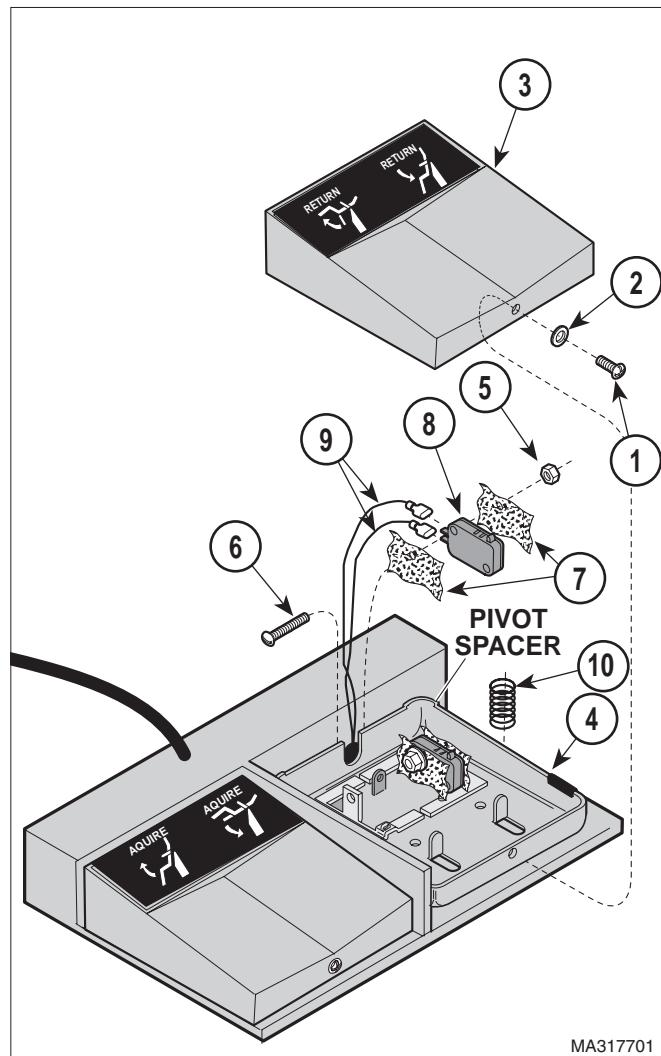

Figure 4-12. Typical Foot Pedal Footswitch Removal / Installation
- (1) Unplug chair power cord from wall outlet.
- (2) Remove screw (1, Figure 4-12), lockwasher (2), and pedal (3) from foot switch bracket (4).
- (3) Remove two locknuts (5), screws (6), two insulators (7), and footswitch (8) from footswitch bracket (4).
- (4) Tag and disconnect two *or* three wires (9) from terminals of footswitch (8). Remove footswitch.